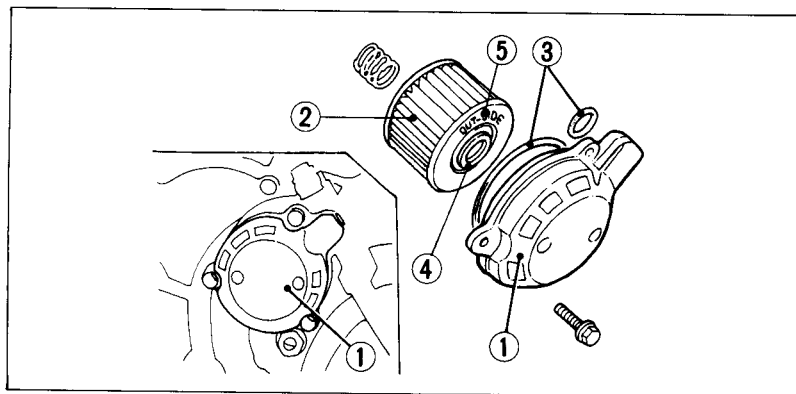

Fig. 4-13
(1) Oil drain plug
3. Remove the oil filter cover (Fig. 4-13) by removing the screws. Let the remaining oil drain out. Discard the oil filter (2).
4. Check that the oil filter cover O-rings (3) are in good condition and then install a new oil filter. Use the proper Honda oil filter or equivalent. Other filters may not filter impurities from the oil properly.